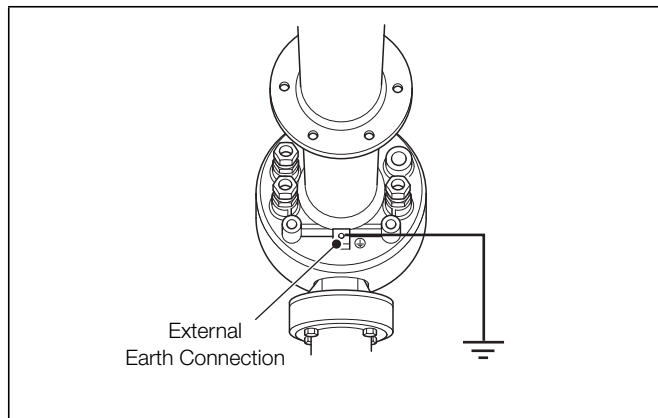

Fig. 5.1 External Earth Connection from Probe
- The probe **must** be bonded to local earth via the external earth connection – see Fig. 5.1.